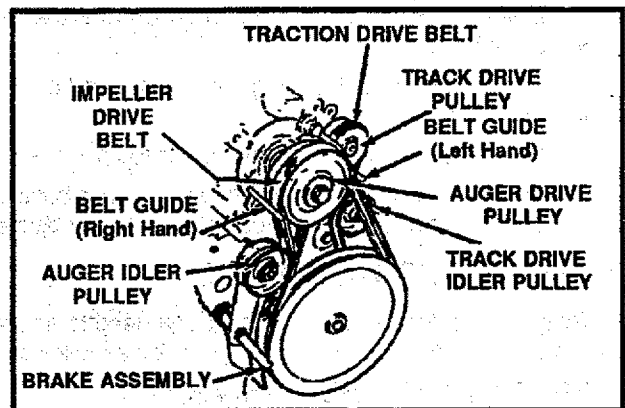

FIG. 29
- Engage the auger drive lever. This will pull the brake assembly (See Fig. 29) away from the pulley and allow the belt to be slipped out.
- Loosen the left hand belt guide (See Fig. 29) mounting screw and move the belt guide away from the belt.
- Pull the track drive idler pulley (See Fig. 29) back and slip the belt past the idler pulley.